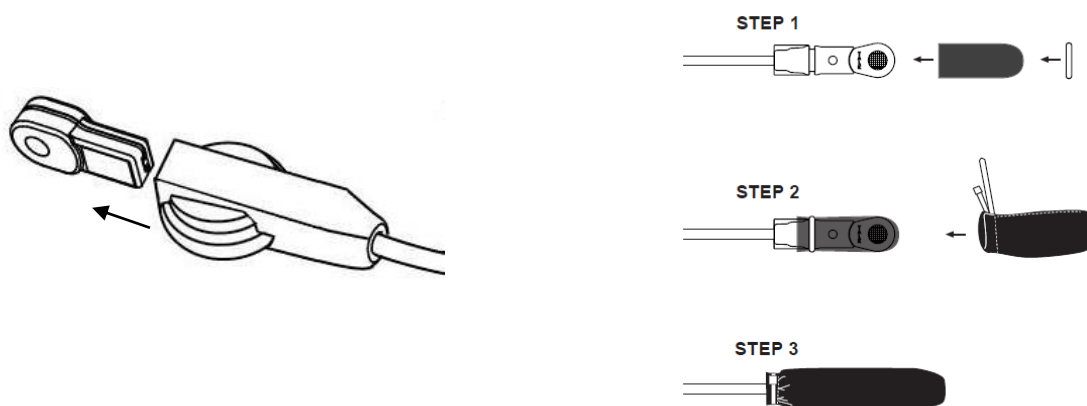

Figure 8: Microphone Removal; Windscreen Kit Install
- 3.) **To remove the M-2H microphone**, simply grab the top and bottom of the microphone firmly between your thumb and forefinger, and pull out assertively from the boom bracket. ***Do not use pliers, as this can cause damage to the microphone (see Figure 8)***
- 5.) **To install a new mic windscreen kit**, with microphone installed, fit the foam windscreen completely over the microphone (note: if a high-wind mic cover kit, fit concentric foam screens over the microphone) (see Figure 8)